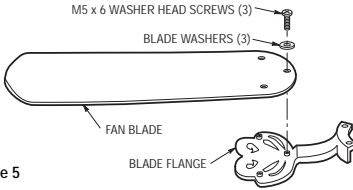

Figure 5
- 8. Mount blade flanges to fan blades using three M5 x 6 washer head screws and three blade washers (Figure 5).